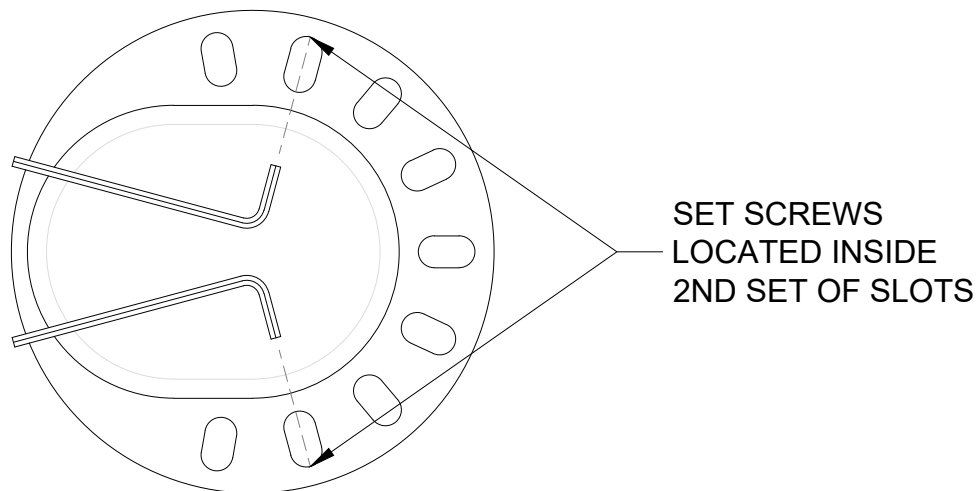

Figure 2
2. Verify that power to fixture is off. Loosen set screws located on Top Plate inside the two oval holes with a 5/64" hex wrench (Figure 2). Lift fixture assembly off the plastic housing and place adjacent to fixture location.
2. Loosen set screws located on Top Plate inside the two oval holes with a 5/64" hex wrench (Figure 2). Lift fixture off plastic housing and place adjacent to fixture location.